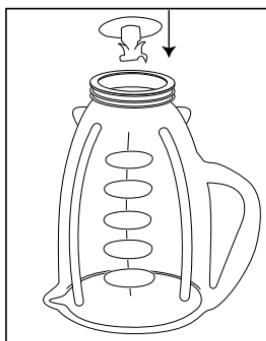

FIGURE 2
3. Place blade into jar. (*Figure 2*)